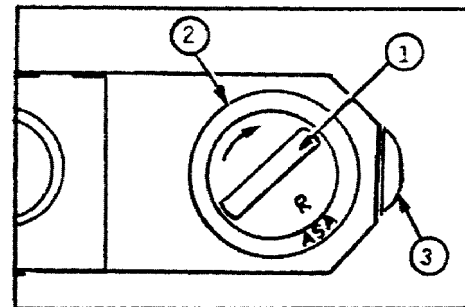

Figure 1-6. Crank for rewind, right side.
c. Crank for Rewind (fig 1-6) ① - crank unfolds for ease of rewinding film into cassette. Film Reminder Dial ② - may be used as a reminder of which kind of film is in the camera body. Camera Case Catch ③ - secures the removable camera back.